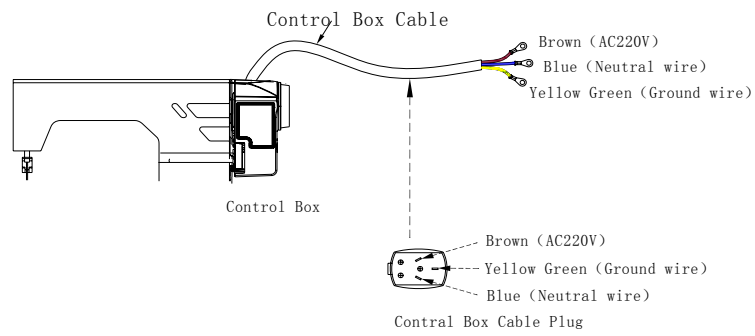

Fig. 3-1
**Ground wire (Green/yellow) must be grounded. Use the correct connector and extension wire when connecting ground wire to Earth and secure it tightly (see Fig.3-1).**